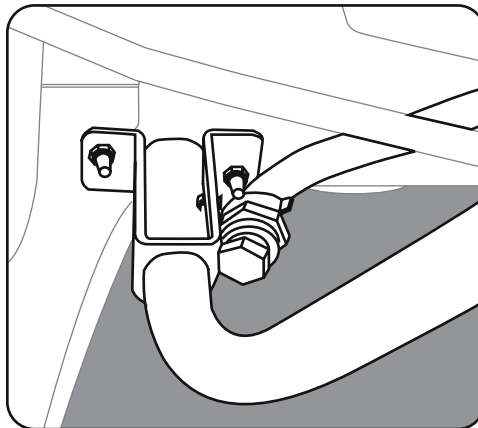

Figure 3-4
4. Install the oil drain tube clip onto the front right support bracket (#6A) in the mounting hole. See Figure 3-4.